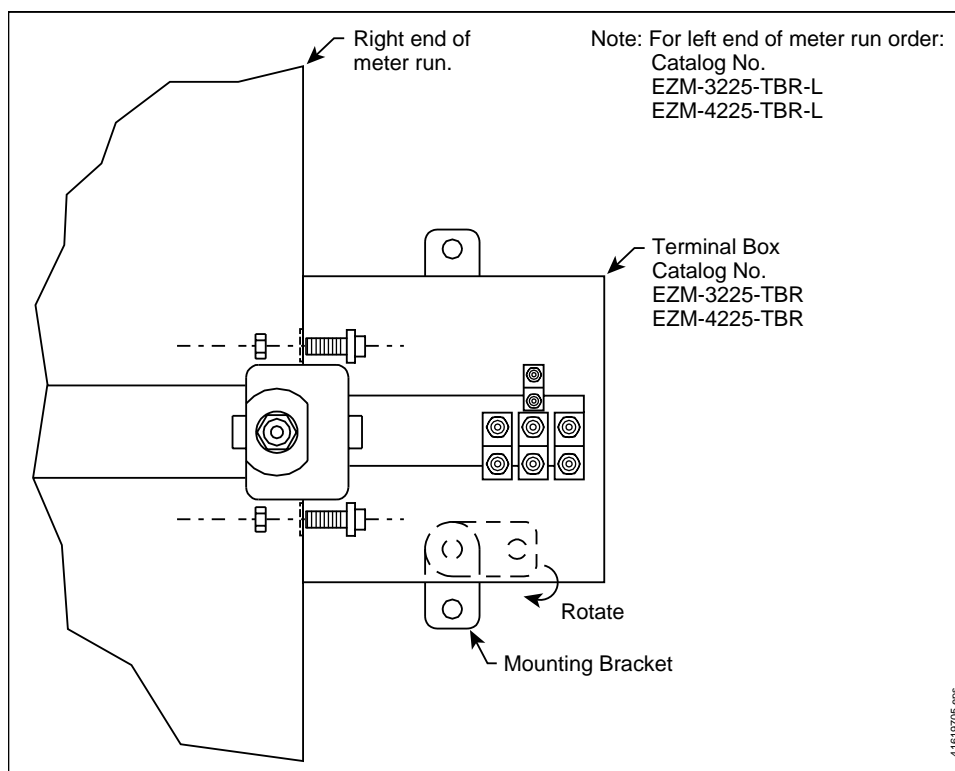

Figure 1: Mounting the Meter/Breaker
- This device must be placed at the end of the meter run. See Figure 1.
2. Rotate the mounting brackets out from behind the box. Hang the meter or breaker unit on the mounting channel (see Figure 1).